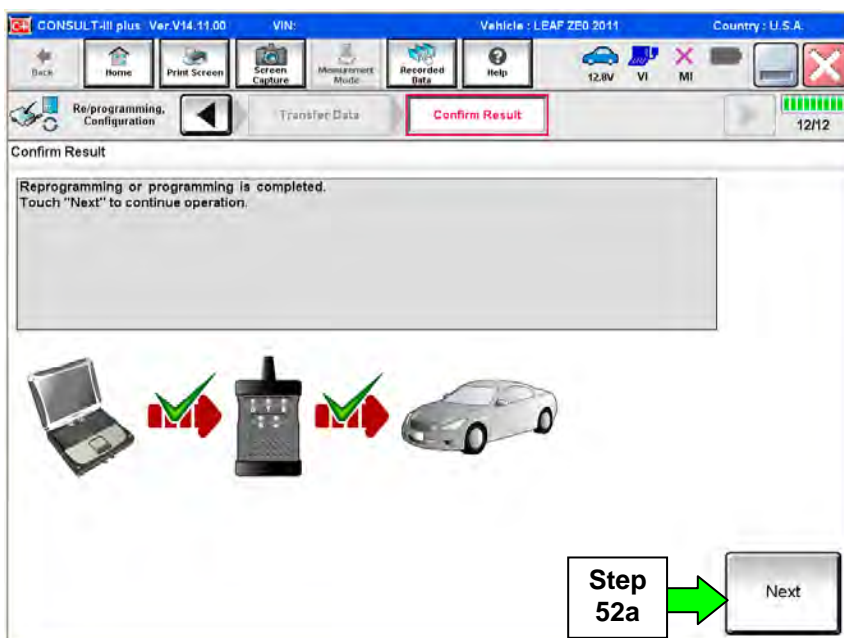

Figure 51
52. When the screen in Figure 51 appears, reprogramming is complete.